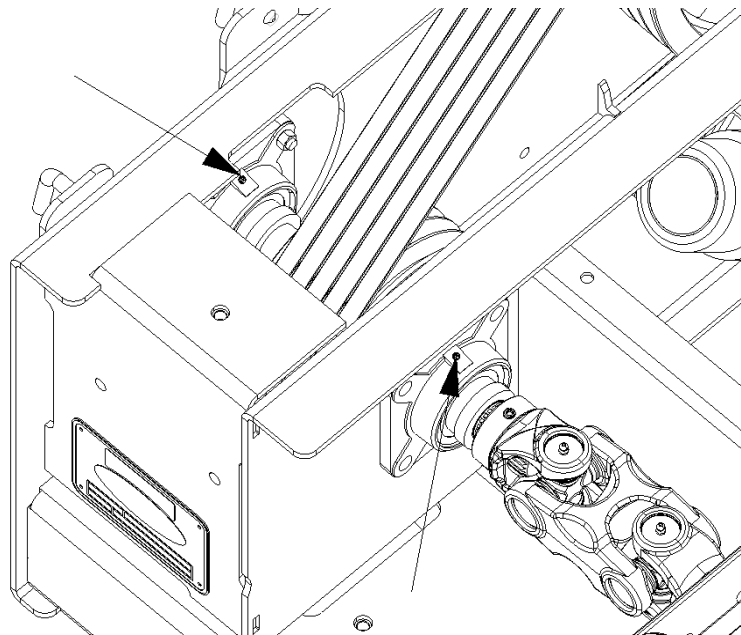

Figure 7-41: Blower outboard bearing lubrication locations
8. Lubricate the lower outboard bearings in the two locations shown in **Figure 7-41**.